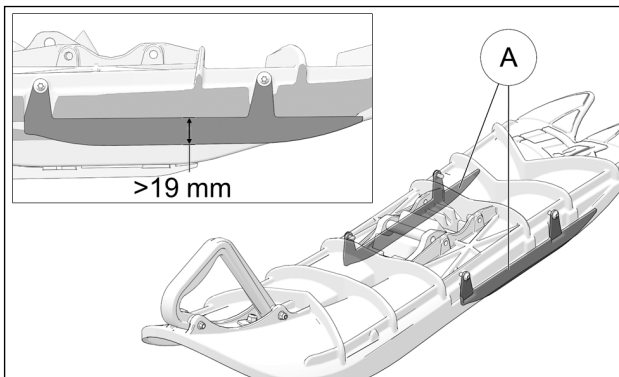

Figure 62
Verify the Side runners (A) mounted on the ski. If they show rounded edges, they should be re-sharpened. Replace part if the height of a runner is under 19 mm (25mm when new). See Figure 62.